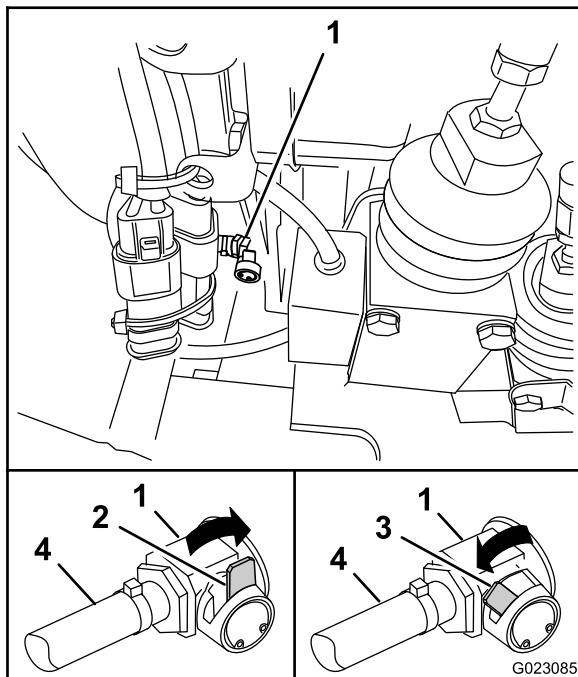

Figure 57
1. Locate the oil-drain valve at the front, bottom area of the engine (Figure 57).
2. Rotate the lever for the drain valve counterclockwise to the open position. (Figure 57).
3. When the oil has completely drained from the engine, rotate the lever on the drain valve clockwise to the closed position (Figure 57).